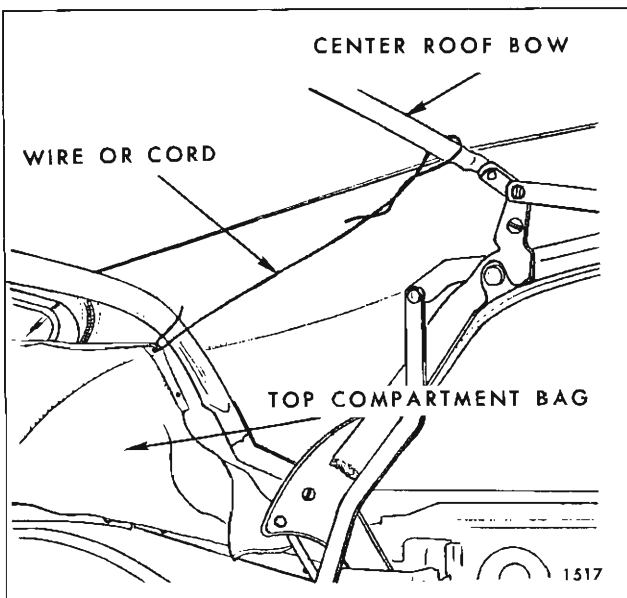

Fig. 5-I-4—Top Compartment Bag Tied to Center Bow
6. Detach top material from front roof rail (Fig. 5I1).
7. Detach top material flaps from side roof front rails (Fig. 5I1).